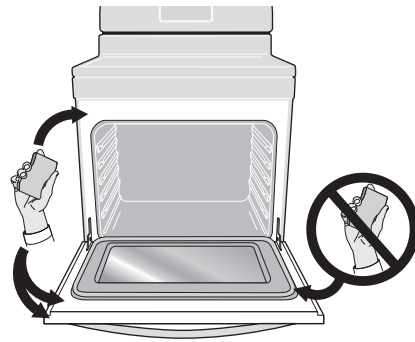

Figure 27: Clean around the oven door gasket
- Do not clean the oven door gasket (Figure 27). The woven material of the oven door gasket is essential for a good seal. Care should be taken not to rub, damage, or remove the gasket.
- Clean any soil from the oven frame, the door liner outside the oven door gasket, and the small area at the front center of the oven bottom. These areas heat sufficiently to burn soil on. Clean with soap and water. These areas are shown in white (Figure 27).